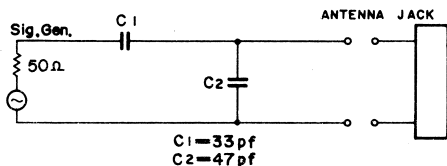

Fig. 6
3. Connect the output terminal of signal generator (modulated by 400c/s 30%) to such the dummy antenna as the figure and connect the earth terminal of signal generator to the receiver chassis (Fig. 6).